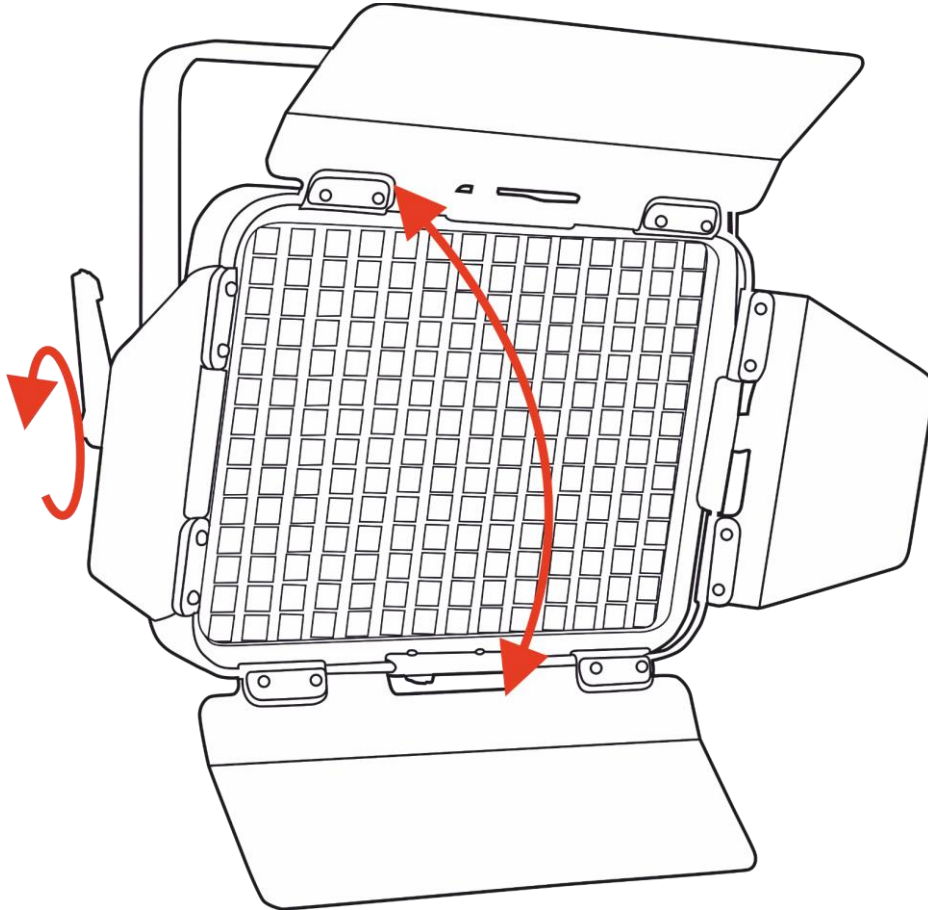

Fig. 07
- 01) Turn the **adjustment screw (01)** counterclockwise to release it.
- 02) Tilt the device to the desired angle (see Fig. 07).
- 03) Turn the **adjustment screw (01)** clockwise to tighten it. Make sure that the device cannot move freely after the **adjustment screw (01)** is tightened.